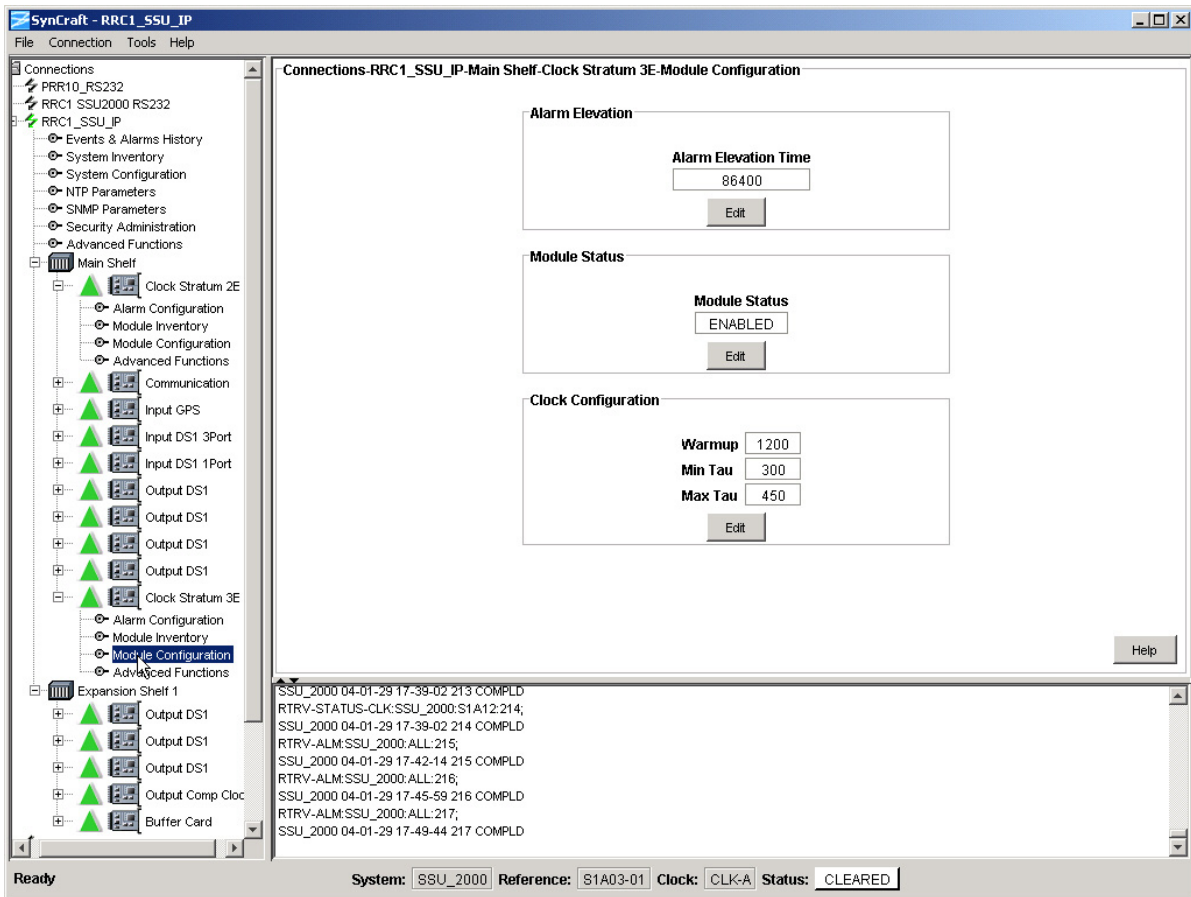

Figure H-12. Secondary Clock Module Configuration Screen
9. Select the Main Shelf and then select the secondary Clock module in the menu. Expand the Clock module and select Module Configuration. A display similar to that in Figure H-12 appears.